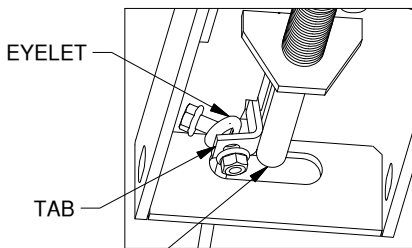

Figure D1
2. **Secure handle.** Secure the handle to the pin with the 5/16" X 3/4" carriage bolt and 5/16" locking flange nut as shown in Figures D1 & D2. Tighten the nut until it is secure. Do not over-tighten and deform the handle eyelet.